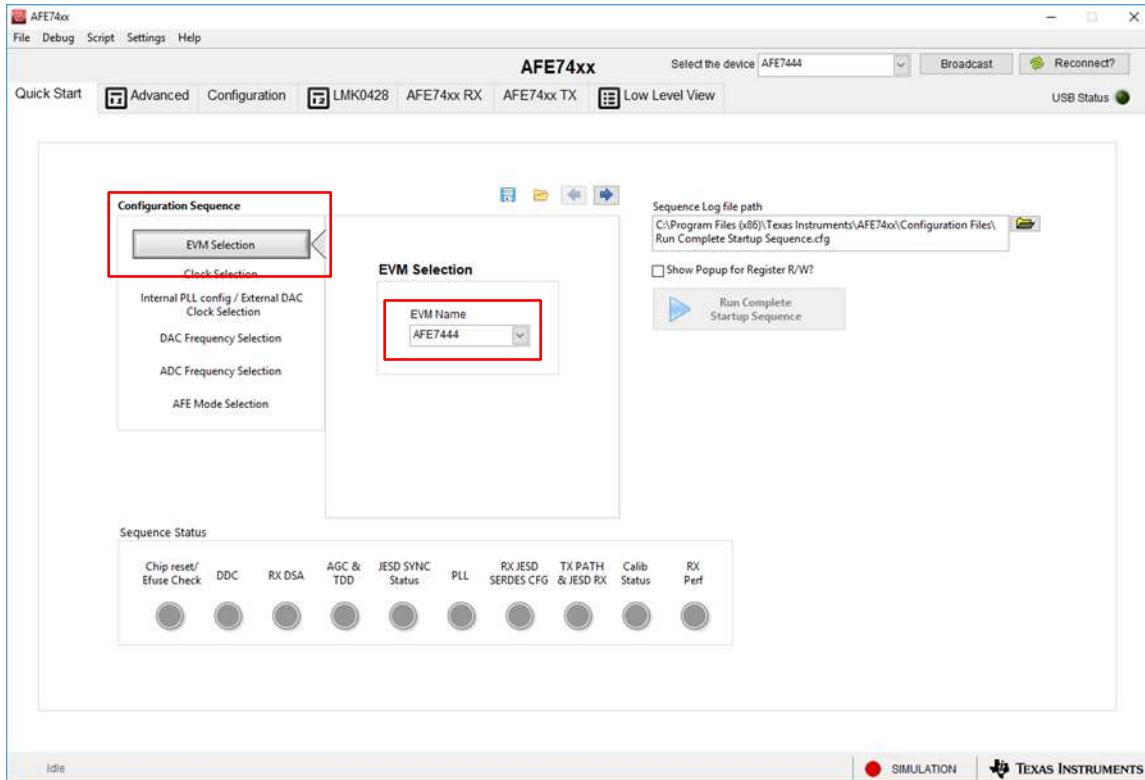

Figure 2. EVM Selection
1. Click the *EVM Selection* button, and verify that the proper EVM is selected, as shown in Figure 2.